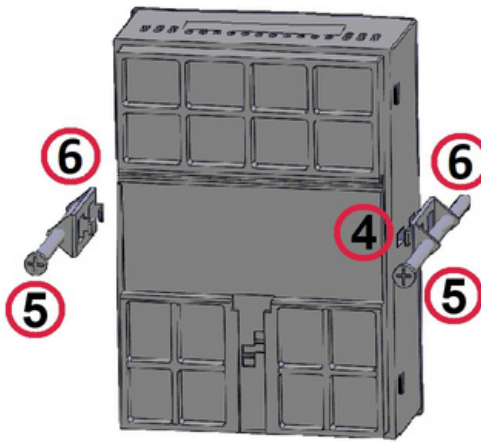

Figure 8: Securing the device to the panel
- Double-claw metal brackets (x2) and M4 YSB 60mm screws on the sides, as illustrated in Figures 8 and 9. (x2) is displayed.